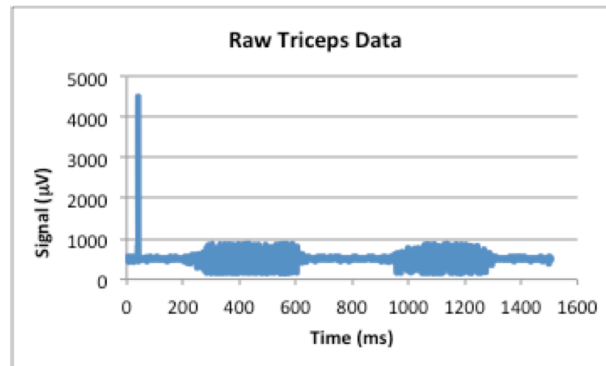
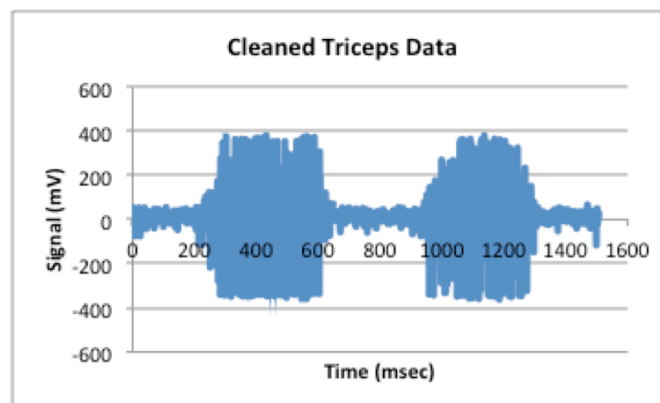

Figure 4. Default Excel graph for raw
Figure 5. Cleaned data from triceps during pushups.
14. **Normalize Data:** You will also need to normalize the data. In Figure 4, the baseline data readout (i.e., when the muscle is not active) is near 500 μV . You should subtract this value from your raw data. See the cleaned data in Figure 5.